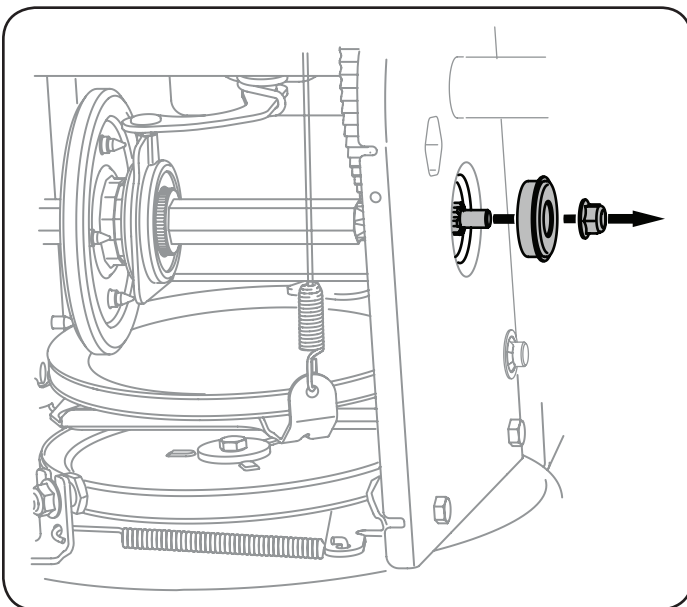

Figure 28
6. Carefully remove the hex nut and washer which secures the hex shaft to the snow thrower frame and lightly tap the shaft's end to dislodge the ball bearing from the right side of the frame. See Figure 28.